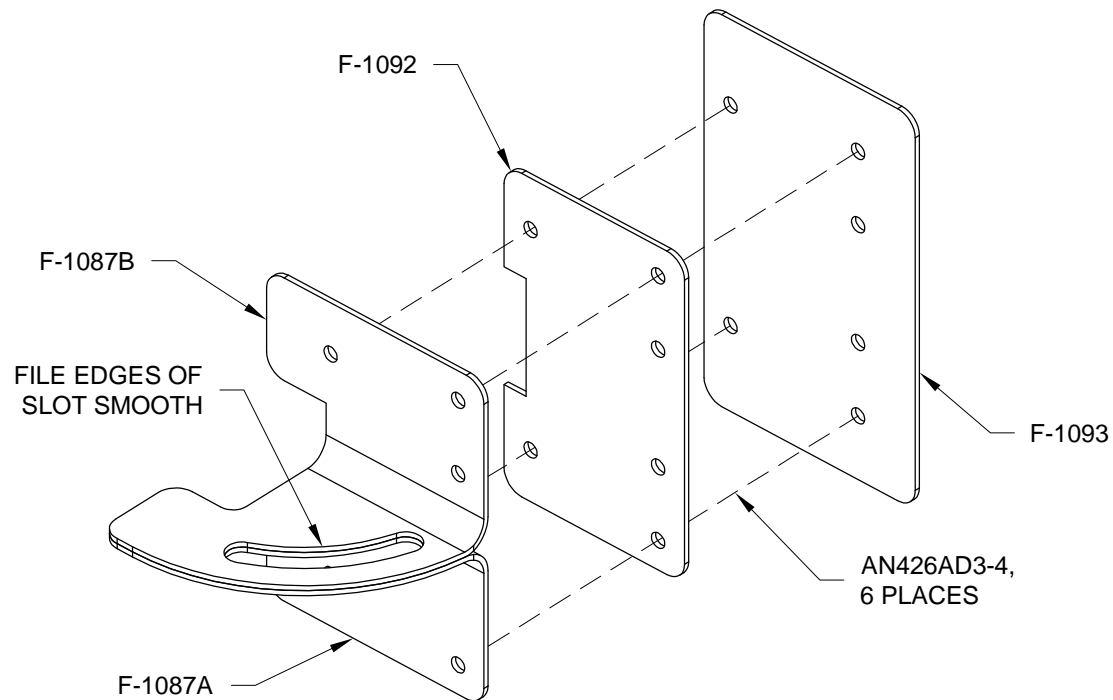

FIGURE 3: VENT DOOR SUBASSEMBLY
Step 2: Cleco together, final-drill #40 all common holes then deburr F-1087A, F-1087B, F-1092 and F-1093 as shown in Figure 3.
Step 5: Rivet the parts together to make the Vent Door Subassembly shown in Figure 3.